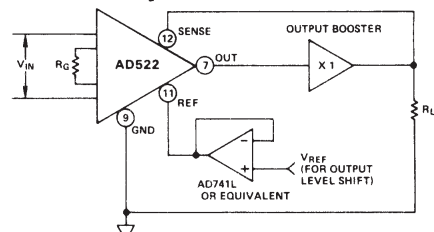

Figure 7. Output Current Booster and Buffered Output Level Shifter
**Sense Output:** A sense output is provided to enable remote load sensing or use of an output current booster. Figure 7 illustrates these applications. Being "inside the loop", booster drift errors are minimized. When not used, the sense output should be tied to the output.
**Reference Output:** The reference terminal is provided to permit the user to offset or "level shift" the output level to a datum compatible with his load. It must be remembered that the total output swing is  $\pm 10$  volts to be shared between signal and reference offset. Furthermore, any reference source resistance will unbalance the CMR trim by the ratio  $10k/R_{\text{ref}}$ . For example, if the reference source impedance is  $1\Omega$ , CMR will be reduced to 80dB ( $10k\Omega/1\Omega = 10,000 = 80\text{dB}$ ). A buffer amplifier can be used to eliminate this error, as shown in Figure 7, but the drift of the buffer will add to output offset drift. When not used, the reference terminal should be grounded.